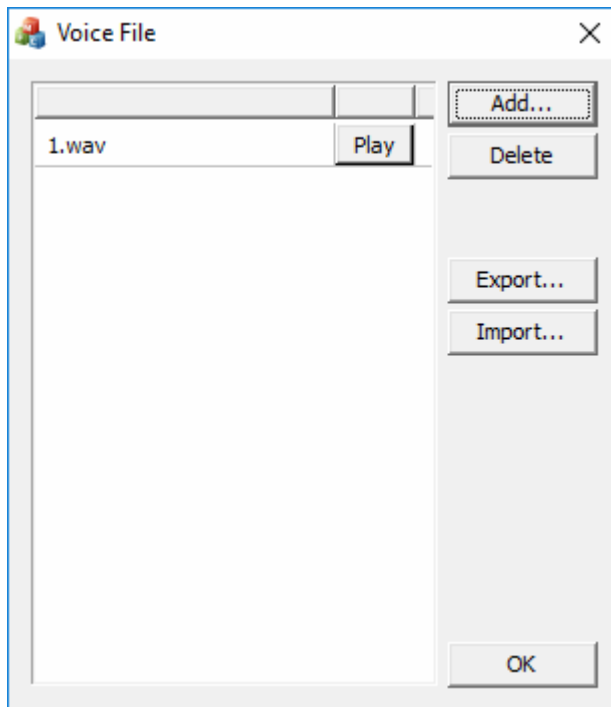

Figure 4-82 Voice file dialog
1. In the dialog box shown in the figure 4-82, click "Voice File" to bring up the dialog shown below.